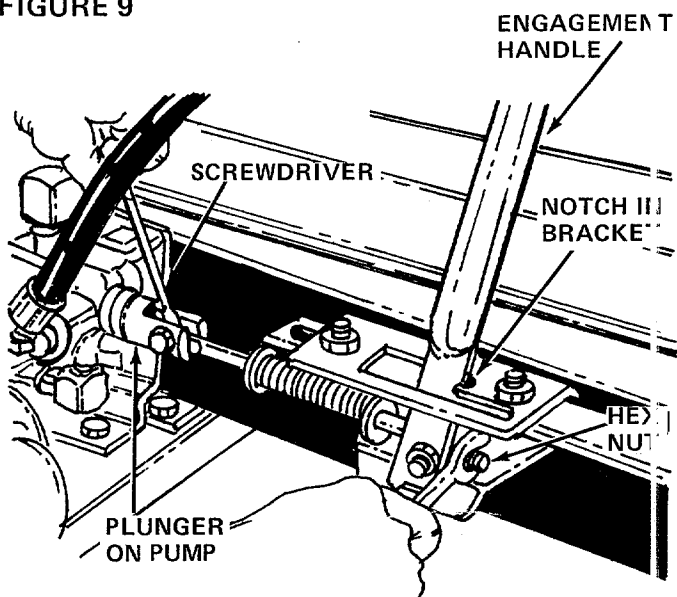

FIGURE 10
- Place the engagement handle in reverse position, locked in the notch in the slotted bracket. See figure 10.
- Adjust the engagement rod by tightening the hex nut on the end of the rod until the plunger on the pump is pushed all the way in when the engagement handle is locked in the reverse position. Insert a screwdriver into the slot in the plunger to keep the rod from turning as the hex nut is tightened. See figure 10.